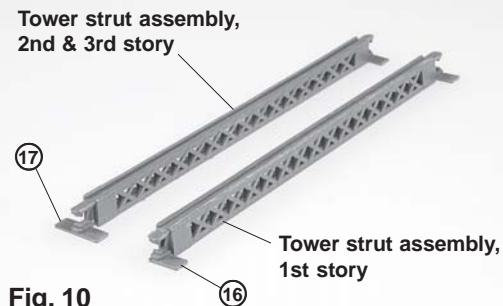

Fig. 10
Two 1st story and four 2nd & 3rd story tower struts must be constructed. The 1st story struts use part (16) while the 2nd & 3rd story struts use part (17). See fig. 10.